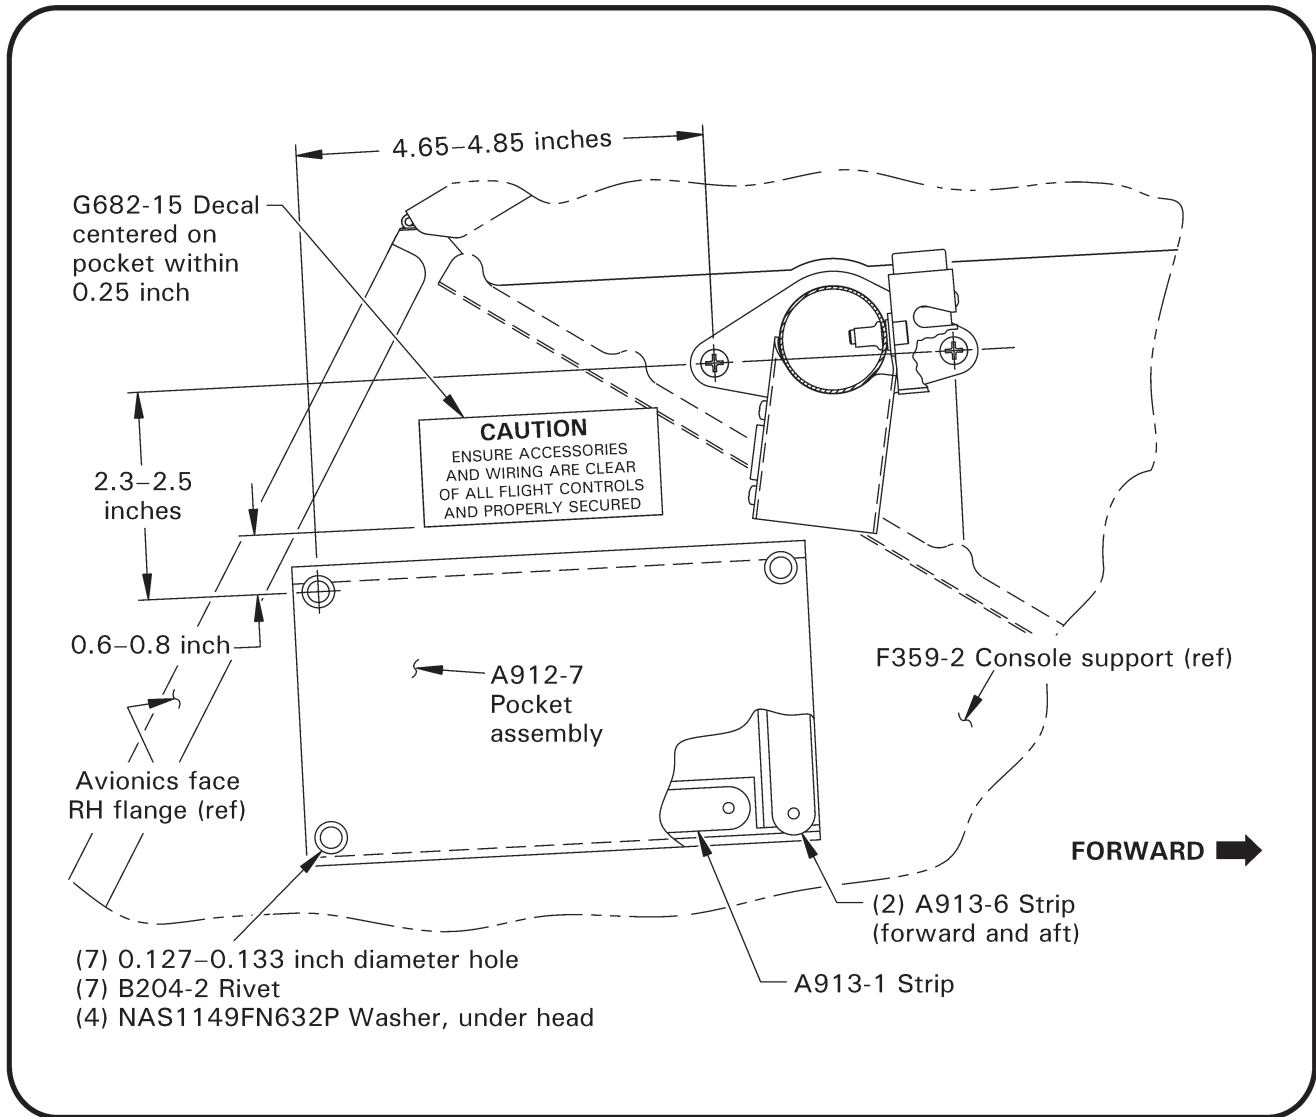

Figure 3 RH Pocket assembly installation shown
8. Refer to Figure 3. Lay out upper-aft hole location for A912-7 pocket assembly, ensuring location will not interfere with right hand flange of avionics face. Then, using pocket and A913-1 & A913-6 strips as templates, lay out remaining (6) holes. Verify clearance on reverse side; using a drill stop and strips as guides progressively match drill and install a cleco in (7) 0.128 inch diameter holes.